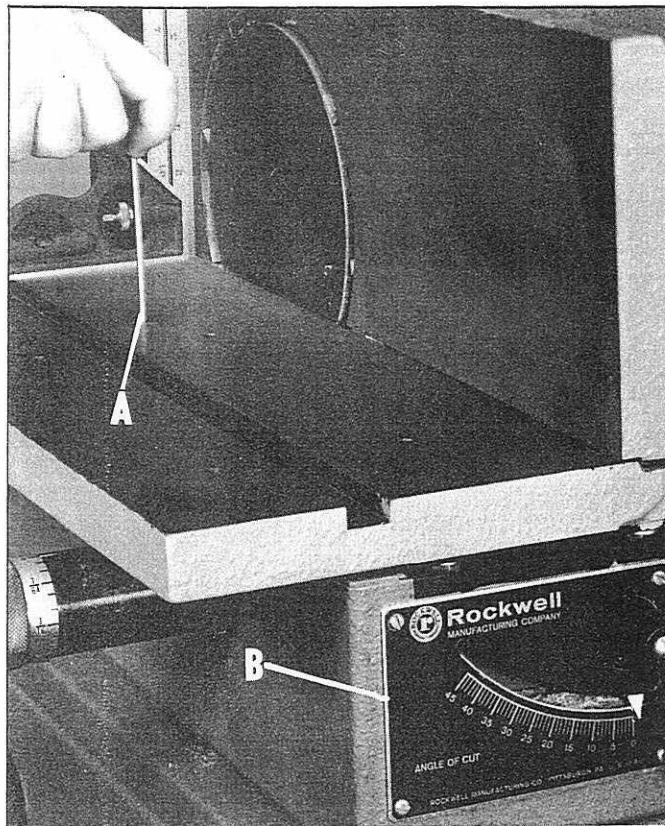

Fig. 6.
2. Place accurate square on the table and against OUTFEED FENCE, as shown in Fig. 6. If table is not 90° to the fence, an adjustment must be made.
3. Turn adjusting screw (A) Fig. 6, in or out until table is square with fence.
4. Check angle scale (B) Fig. 6, and if pointer is not at "0", loosen four screws that hold the scale to the base and adjust the scale.